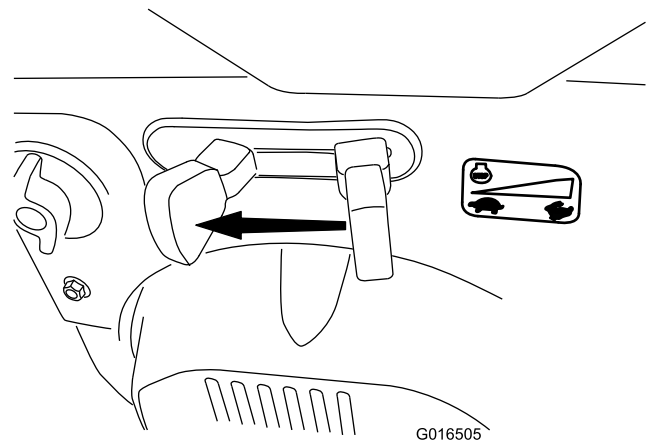

Figure 22
1. Move the throttle to the SLOW position, and then to the STOP position (Figure 22). You can also shut off the engine by pulling the ignition key outward to the middle position.